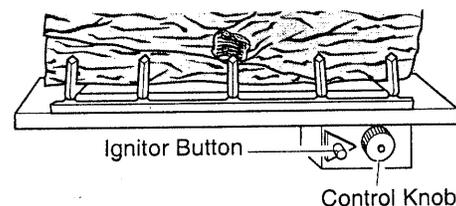

Figure 40 - Control Knob and Ignitor Button Location
3. Turn control knob clockwise to the OFF position (see Figure 40).
4. Wait five (5) minutes to clear out any gas. Then smell for gas, including near the floor. If you smell gas, **STOP!** Follow "B" in the safety information, column 1. If you don't smell gas, go to the next step.
5. Turn control knob counterclockwise to the PILOT position. Press in control knob for five (5) seconds (see Figure 40).